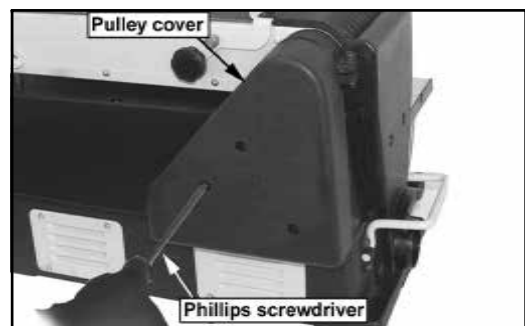

Fig. 21
1. Using a Phillips screwdriver, remove the three pan head screws located in the cover. (See Fig. 21)